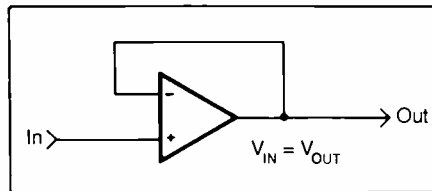

Fig. 2. An op amp used in a buffer arrangement.
- **Buffer** (Fig. 2). Also known as a voltage follower, the buffer is used to isolate a high-impedance circuit and drive other electronics from a low-impedance source. In general, a very high input impedance is a must and low offsets and slew rate are desirable. A couple of good op amp choices here would be the CA3140 and LM308. The TL071 has a high input impedance and good noise and slew-rate figures that make it a good candidate for audio electronics.